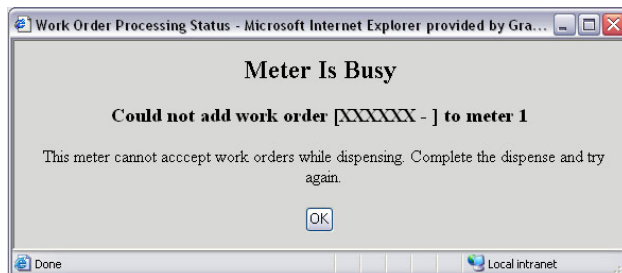

FIG. 60 Meter Is Busy
3. **Meter is Busy** (FIG. 60). This message appears when the PC has received an Activate message from the meter being addressed. No RF communication is attempted when this screen appears. Attempt to send the work order again when the meter has completed processing the active work order.